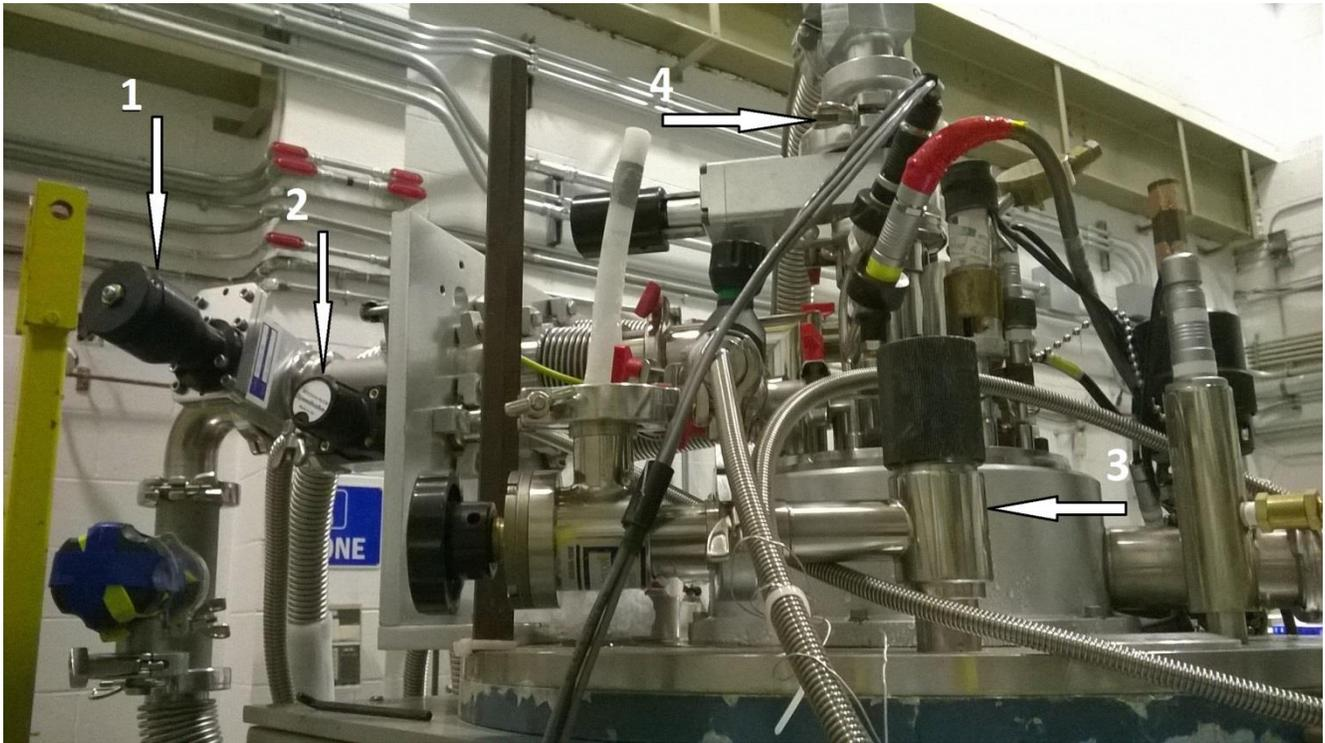

Fig.3
- Open Condenser Valve (2) and Still Valve (1) shown on Fig.3.
1. Connect external turbo pumps to Vacuum Jacket line (3) and Sample load port (4) Fig.3. Pump it till pressure goes down to $\sim 10^{-6}$ Torr.
10. Connect turbo pump to the Sample port 4 (Fig.3).
4. Open Still #1 and Condenser #2 manual valves on top of the cryostat (Fig3).